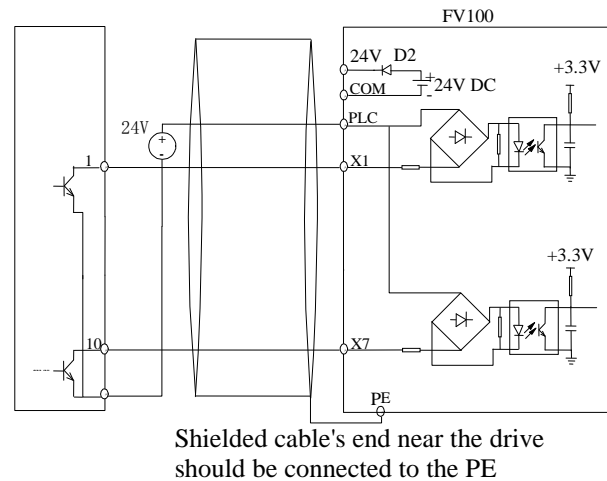

Fig 4-11 Use external power supply
3) Use external power supply for source connection (Make sure the PLC and 24V terminal is disconnected). As shown in the fig.4-11